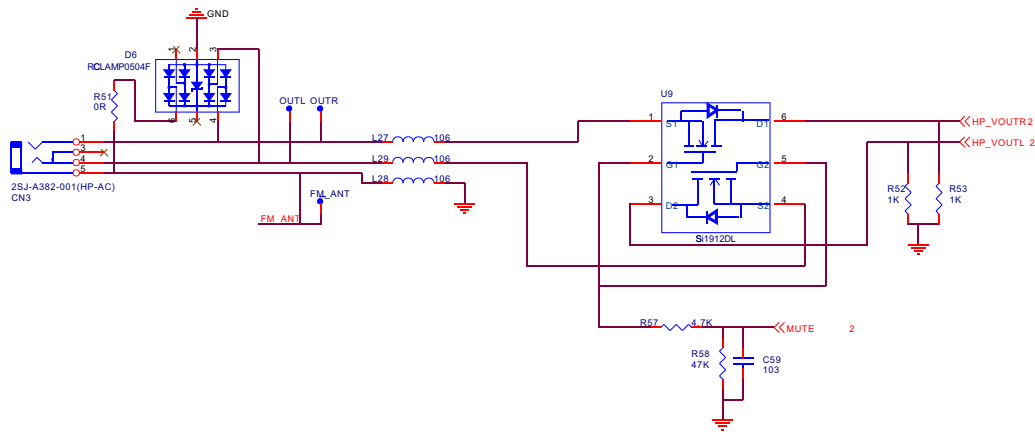

Figure 3.2.10.1 Headphonejack circuit schematic diagram
1. Headphone jack circuit schematic diagram is shown in the figure 3.2.10.1: